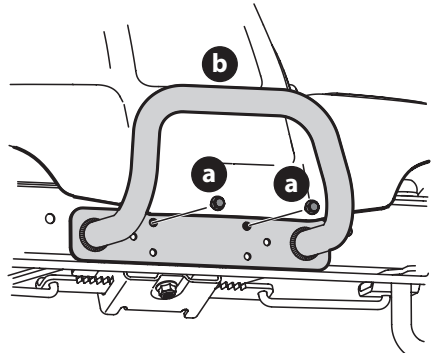

Figure 15
1. Remove the two screws (a) (Figure 15).
2. Position the bumper (b) over the mounting holes and secure using the screws (a) removed in Step 1 (Figure 15).